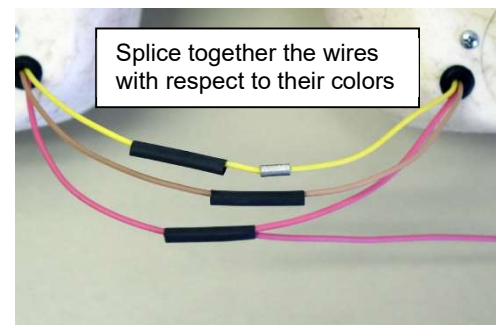

Figure 3
- 3.5.1. For the three housings making up a taillight assembly, bring each of the three matching color wire together for splicing with moderate slack. Cut off any excess wire length and strip off ¼" insulation off each wire. Slide a piece of heat shrink tubing over all wires on one side of the splice. Using the butt splices provided, insert the one color wire into each side and crimp the wires together. Then slide the heat shrink tubing over splice and shrink into place with a heat gun or other suitable heat source. (See Figure 3) Perform this operation for both left and right housings.
- 4.1. For the three housings making up a taillight assembly, bring each of Pink wires together for splicing with moderate slack. Cut off any excess wire length and strip off ¼" insulation off each wire. From the 20 foot Pink wire coil supplied, cut a 6" piece of wire and stripe one end ¼" to include with the splicing of the three other Pink wires from each housing. Slide a piece of heat shrink tubing over all wires on one side of the splice. Using the butt splices provided, insert the Pink wires into each side of the butt splice and crimp the wires together. Then slide the heat shrink tubing over splice and shrink into place with a heat gun or other suitable heat source. (See Figure 3) Perform this operation for both left and right housings.